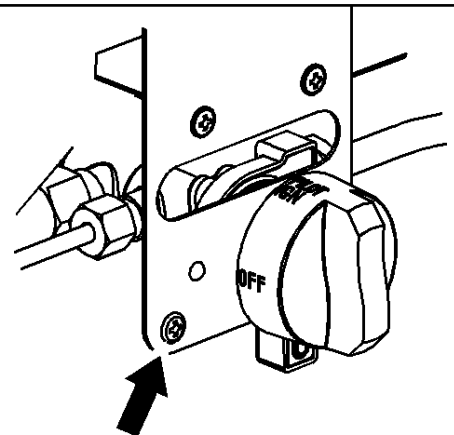

Figure 11.
3. Unscrew and remove the screw that secures the gas tap bracket. This can be found to the bottom left of the control knob (See figure 11).
2. Screw the gas tap bracket to the support bracket with the screw removed previously (See figure 11).